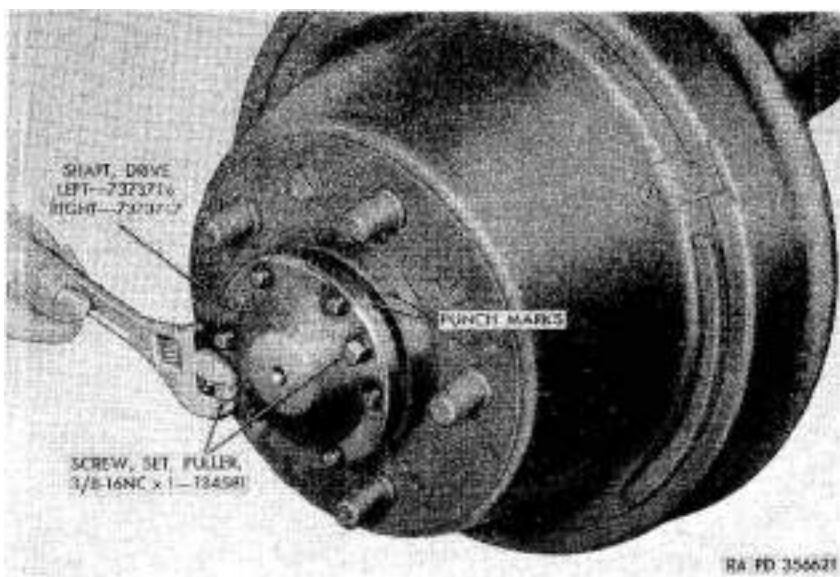

Figure 73. Removing drive shaft.
- (1) Apply punch marks (fig. 73) on both drive shaft flanges and hub assemblies with a center punch and hammer. The flanges must be installed on hubs in the same position as when removed to prevent possible peeling of the studs.
- (2) Remove $\frac{3}{8}$ -24NF hex nuts (E) and $\frac{1}{4}$ -inch lock washers (D) from drive shaft flange studs (R) (both sides).
- (3) Remove the two $\frac{3}{8}$ -16NC x 1 puller set screws (C and G) from each drive shaft (A) and remove $\frac{3}{8}$ -16NC hex nuts (B and F). Install screws and pull drive shafts (fig. 73) from hubs. Remove both drive shafts.
- (4) Remove both drive shaft flange gaskets (H and K) and hub bearing outer oil seals (J).